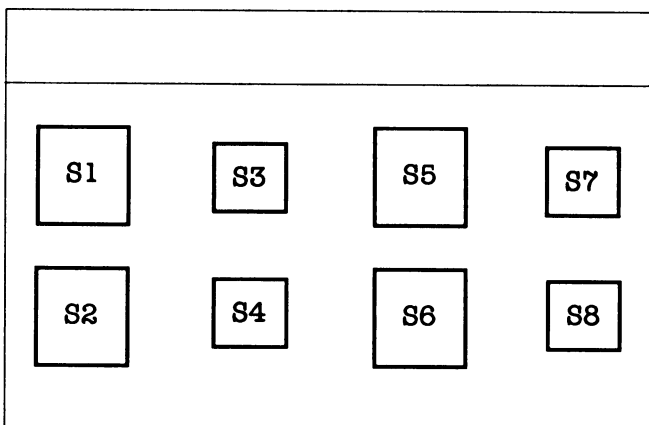

FIGURE 2 - SWITCH NUMBERS FOR THE CONTROL PANEL TEST
The MVS radio provides a means for testing the switches on the Control Panel. If any button is held in and the power is turned on simultaneously, the LCD will display "S" ("switch") in the channel indicator and the number of the switch in the mode indicator. Figure 2 shows how each Control Panel switch is numbered in the test.
5. Press each of the Control Panel switches. The LCD will display "S" (switch) in the channel indicator and the number of the switch in the mode indicator. Figure 2 shows how each switch is numbered. When a switch is released, the LCD will resume turning off each segment.